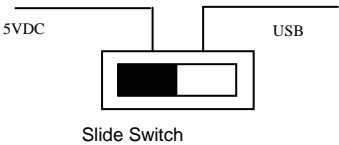

Fig. 6-1
**Note:** Please ensure that the power select button is on the left side of slide switch (See Fig. 6-1).
Fig. 6-1 represents that TP-Fiber Converter with AC-DC Power Adapter is enabled;